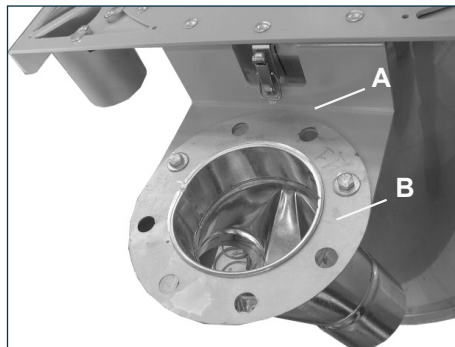

Fig. 3
- 4) Fix flange B temporarily to the support A as indicated in Fig.3.